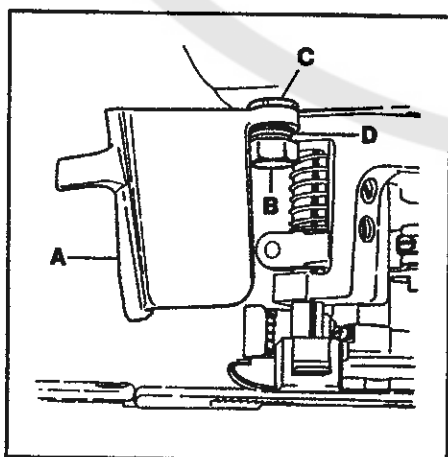

FIG. 25
To adjust the position and tension of frame chip guard (A, Fig. 25), slightly loosen screw (B) and turn washer (C) with 21388Y spanner wrench until spring (D) snaps the guard into the closed position. Tighten screw (B). A light resistance should be felt when opening the guard.